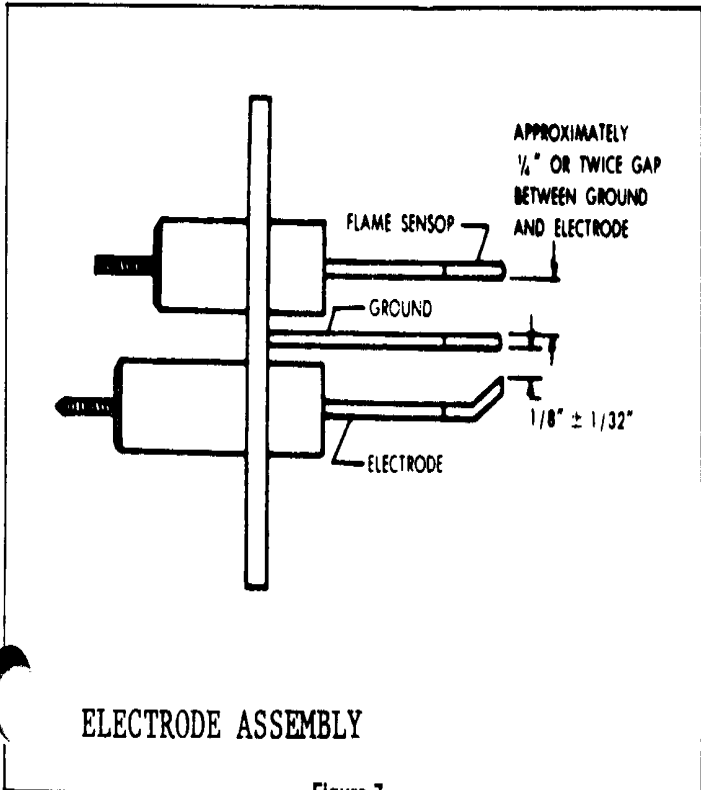

Figure 7
- 11. Make sure electrode is not grounding to burner, the gap between the spark probe and the ground probe is 1/8" (see Figure 7), and the ceramic insulator is not cracked, broken or sooted. Adjust, clean or replace as necessary.**